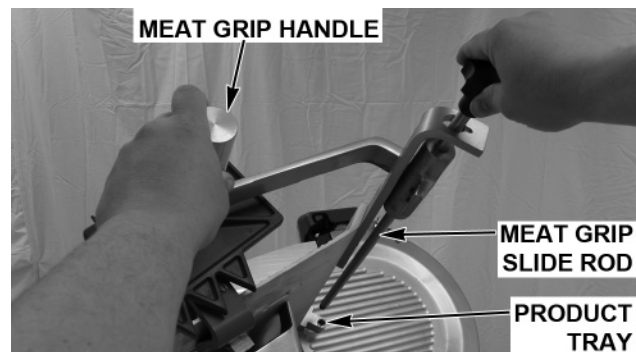

Fig. 25
- Install the Meat Grip Assembly (Fig. 25) on the Product Tray by sliding the Meat Grip Slide Rod into the Meat Grip Handle and Product Tray.